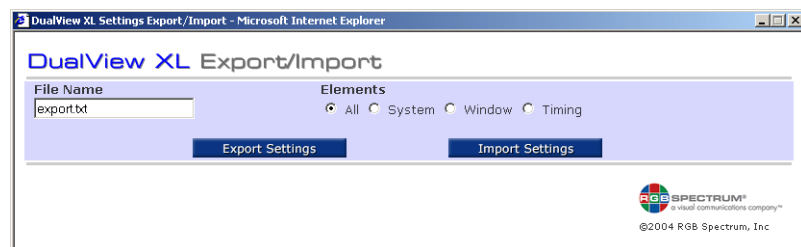

Figure 4-14. WCP Settings Export/Import Page
- Click on the Export/Import setting button located in the lower section of the System page (Figure 4-13). This will open the Export/Import menu page (Figure 4-14).